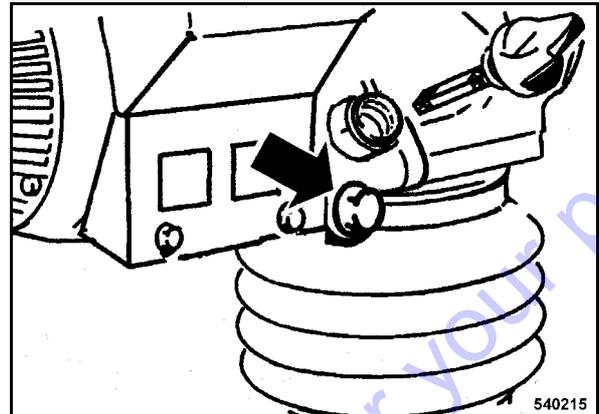

Fig. 39
- Unscrew the drain plug (Fig. 39).